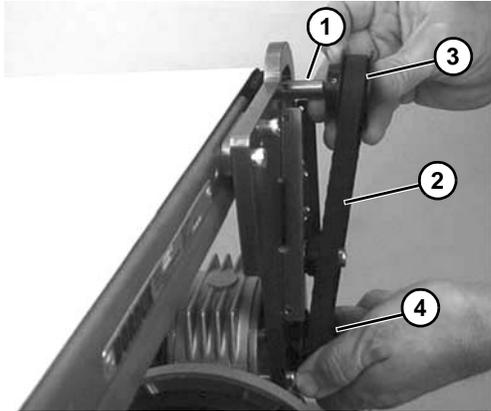

Figure 19
- Install key (Figure 19, item 1).
8. Wrap timing belt (**Figure 19, item 2**) around driven pulley (**Figure 19, item 3**) and drive pulley (**Figure 19, item 4**). Install driven pulley (**Figure 19, item 3**) onto conveyor shaft.